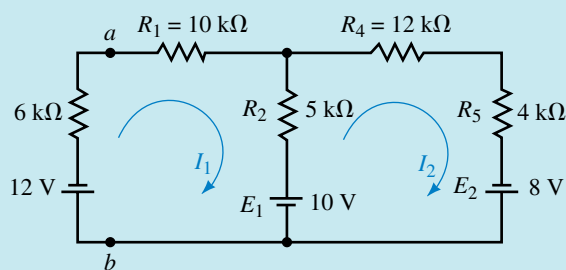

FIGURE 8-28
Step 2: Redrawing the circuit is further simplified by labelling some of the nodes, in this case a and b . After performing a source conversion, we have the two-loop circuit shown in Figure 8-28. The current directions for I_1 and I_2 are also illustrated.